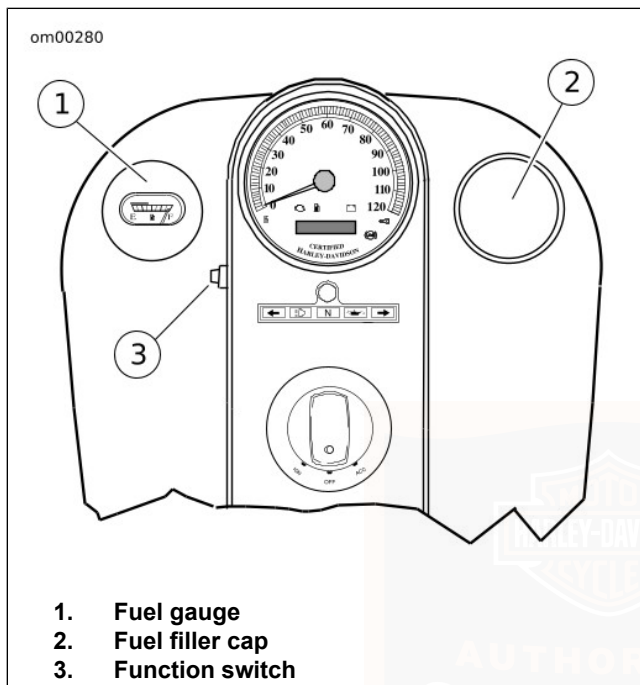

Figure 14. Fuel Tank: FLHR/FLHRC
- See Figure 14. On FLHR/FLHRC models, the fuel filler cap is located on the right side of the fuel tank. The cap on the left side is the fuel gauge and is not removable.